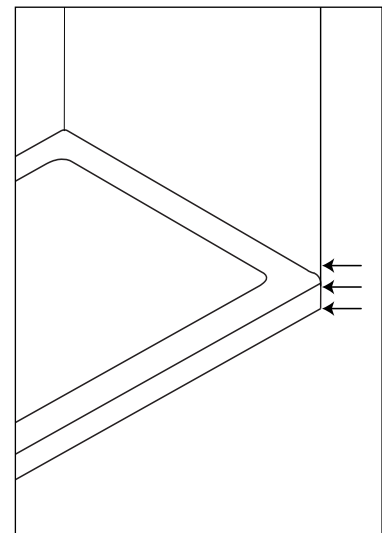

FIGURE 5. End panels flush with front of shower base
- End panels are designed to be flush with the front edge of shower base. (Fig. 5)